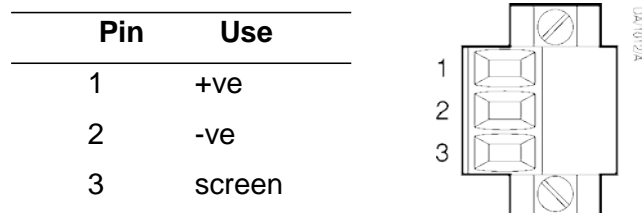

Figure 9 - milliamp interface connector
- Connect the wires in your cable to the screw terminals on the milliamp interface connector supplied: refer to Section 2.7 for the cable requirements, and refer to Figure 9 below for the connection requirements.